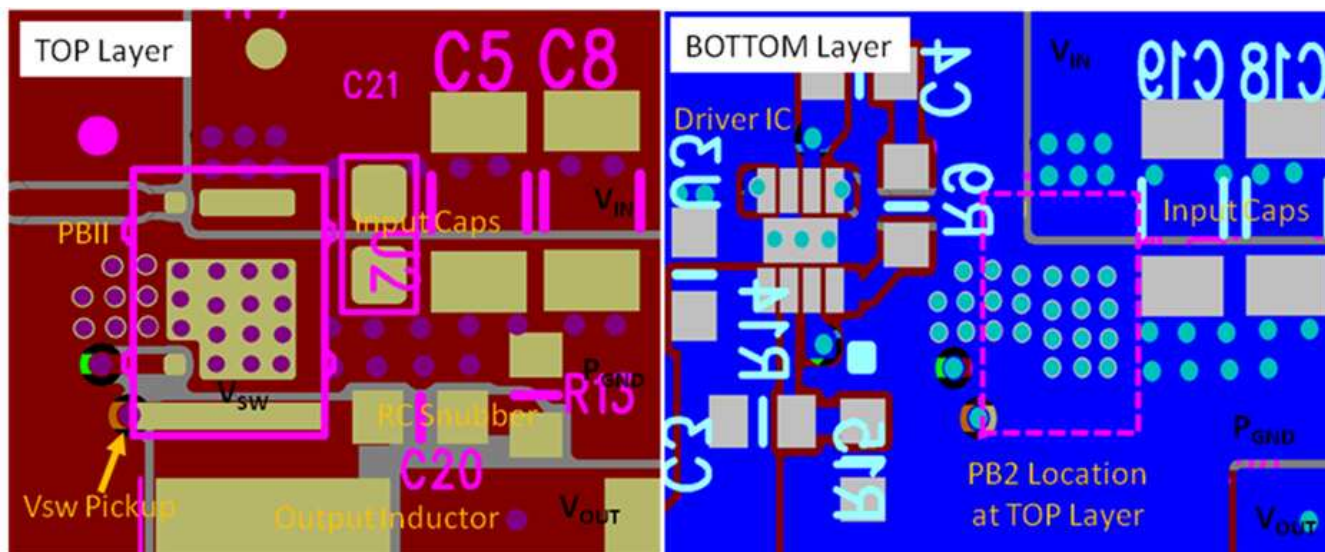

Figure 29. Recommended PCB Layout (Top Down View)
- The placement of the input capacitors relative to VIN and PGND pins of CSD87384M device should have the highest priority during the component placement routine. It is critical to minimize these node lengths. As such, ceramic input capacitors need to be placed as close as possible to the VIN and PGND pins (see Figure 29). The example in Figure 29 uses 1 x 10-nF 0402 25-V and 4 x 10- μ F 1206 25-V ceramic capacitors (TDK part number C3216X5R1C106KT or equivalent). Notice there are ceramic capacitors on both sides of the board with an appropriate amount of vias interconnecting both layers. In terms of priority of placement next to the Power Stage C21, C5, C8, C19, and C18 should follow in order.
- The switching node of the output inductor should be placed relatively close to the Power Block II CSD87384M VSW pins. Minimizing the VSW node length between these two components will reduce the PCB conduction losses and actually reduce the switching noise level. See Figure 29.⁽¹⁾
(1) Keong W. Kam, David Pommerenke, "EMI Analysis Methods for Synchronous Buck Converter EMI Root Cause Analysis", University of Missouri – Rolla
- Use the smallest drill size allowed in your design. The example in Figure 29 uses vias with a 10 mil drill hole and a 16 mil capture pad.